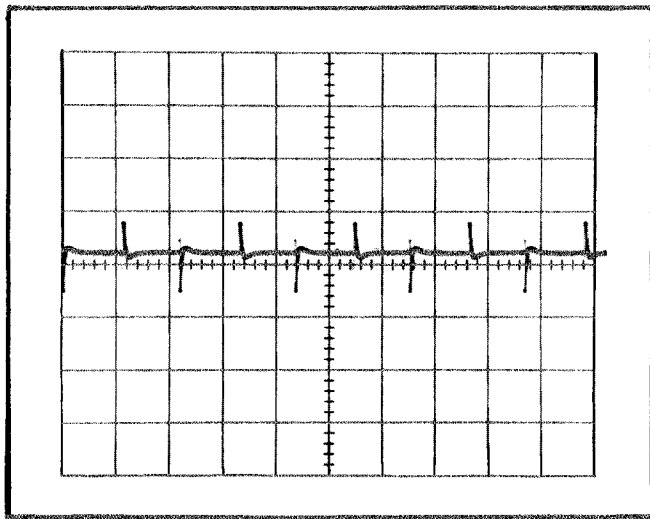

Fig. 5-4. Typical display obtained when Input Attenuators are adjusted for optimum differential balance.
- f. CHECK—For optimum differential balance according to the information given in Table 5-4. When properly adjusted, the waveform should appear as shown in Fig. 5-4. Disregard any spikes on the waveform.
- g. ADJUST—R108E, R109E and R110E (see Fig. 5-1) for minimum amplitude as shown in Fig. 5-4, using Table 5-4 as a guide.